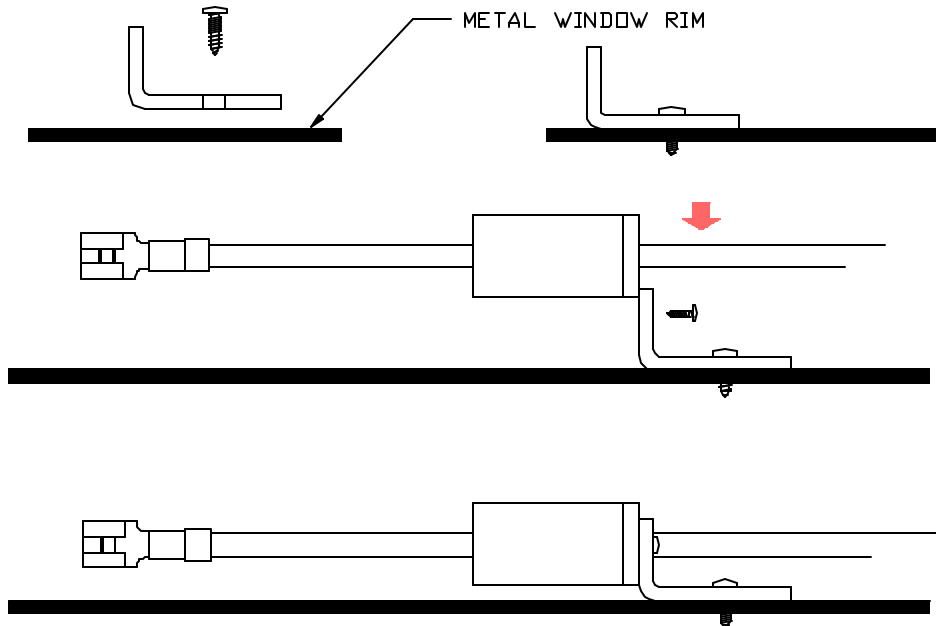

**Figure 2 – Points of Interest**
1. **Locate Points of Interest** (Refer to Figure 2)